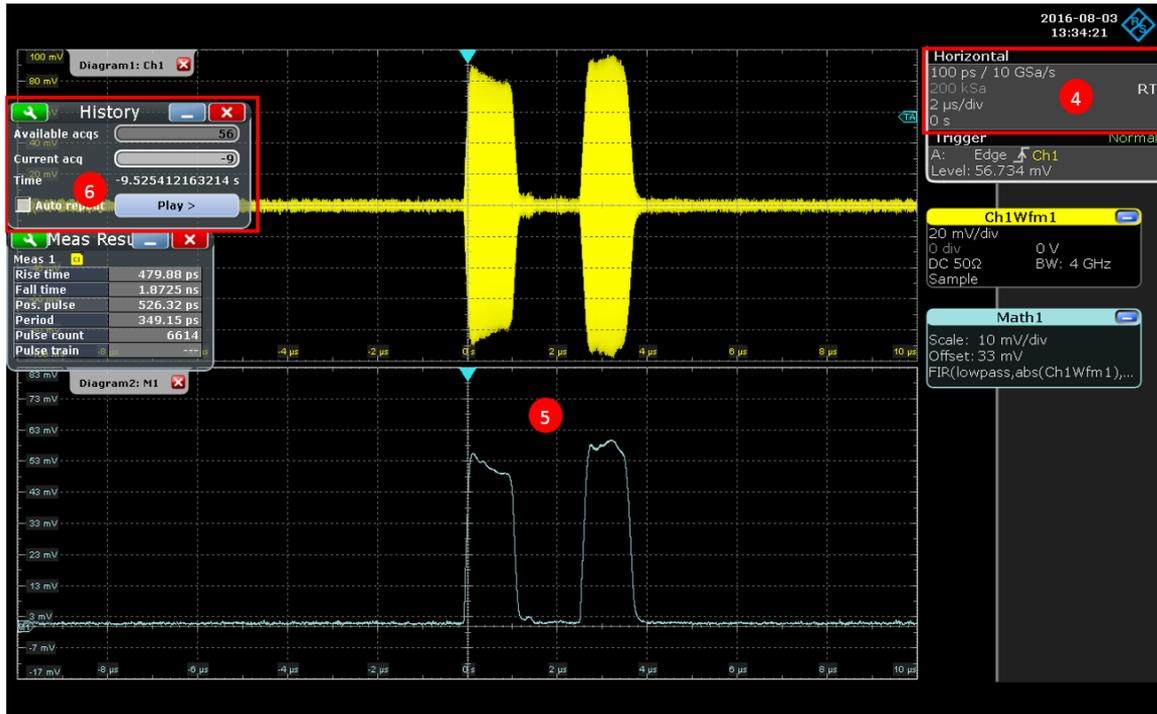

Figure 32 : ATC envelope results, the first pulse shows a magnitude droop
5. The diagram2 window, which was an FFT, is changed here to **[Math1]** as explained in section 3.2.3. One can see the pulse envelope by filtering out the carrier frequency. Adding the measurement results indicates the pulse properties per captured pulse sequence. The amplitude for the 1st pulse is ~53 mV and for the 2nd pulse ~58 mV which yields according to [9] -12.5 dBm and -11.27 dBm, see Figure 32.